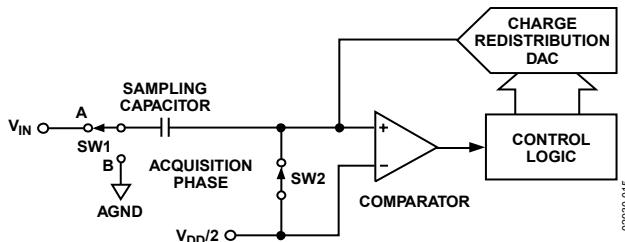
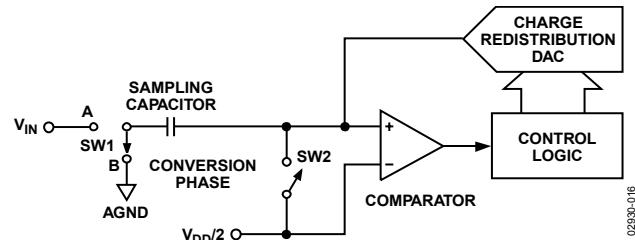
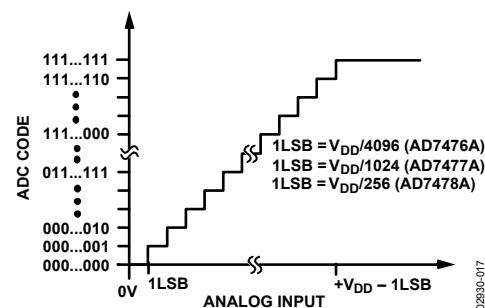

Figure 15. ADC Acquisition Phase
Figure 16. ADC Conversion Phase
Figure 17. **AD7476A/AD7477A/AD7478A** Transfer Characteristic
**AD7476A/AD7477A/AD7478A** are successive approximation, analog-to-digital converters based around a charge redistribution DAC. Figure 15 and Figure 16 show simplified schematics of the ADC. Figure 15 shows the ADC during its acquisition phase. SW2 is closed and SW1 is in Position A, the comparator is held in a balanced condition, and the sampling capacitor acquires the signal on  $V_{IN}$ .
When the ADC starts a conversion (see Figure 16), SW2 opens and SW1 moves to Position B, causing the comparator to become unbalanced. The control logic and the charge redistribution DAC are used to add and subtract fixed amounts of charge from the sampling capacitor to bring the comparator back into a balanced condition. When the comparator is rebalanced, the conversion is complete. The control logic generates the ADC output code. Figure 17 shows the ADC transfer function.
The output coding of the **AD7476A/AD7477A/AD7478A** is straight binary. The designed code transitions occur at the successive integer LSB values, that is, 1 LSB, 2 LSB, and so on. The LSB size is  $V_{DD}/4096$  for the **AD7476A**,  $V_{DD}/1024$  for the **AD7477A**, and  $V_{DD}/256$  for the **AD7478A**. The ideal transfer characteristic for the **AD7476A/AD7477A/AD7478A** is shown in Figure 17.